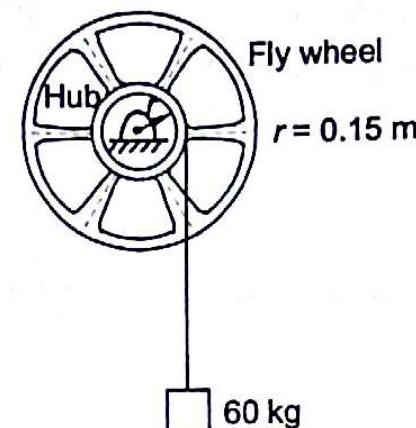

Fig. 18.15
18.4 A flywheel of mass 160 kg is shown in the Fig. 18.15. A rope is wrapped around the hub of the flywheel. Hub radius is 0.15 m. A stationary weight of mass 60 kg descends 1 m in 5 seconds. What is the radius of gyration of the flywheel?